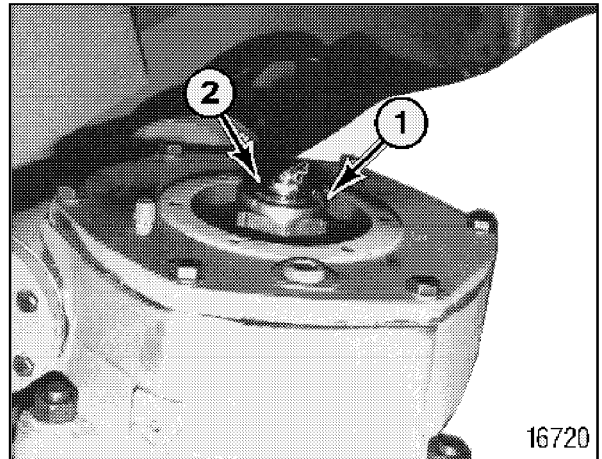

Figure 5
4. Remove lock nut and washer (1, Figure 5) from pinion shaft (2).